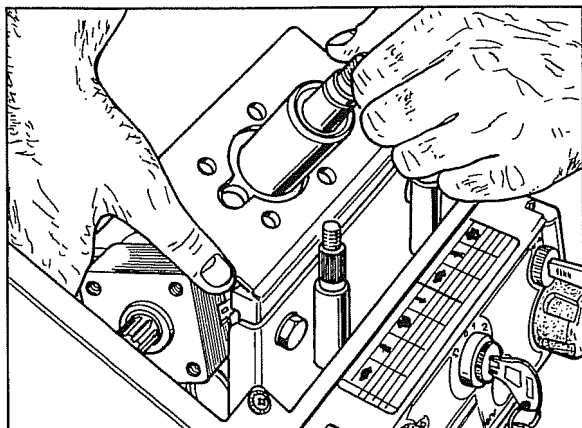

Fig. 62
3. Push the hoses under the power steering and remove the assembly from the side as shown in Fig. 62.